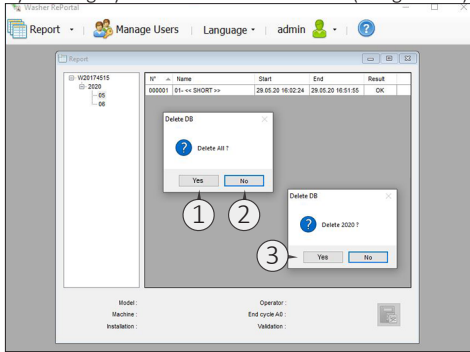

Fig. 23.6c
- Delete DB: delete the entire database or only the selected item (Fig. 23.6c);
The "Delete DB" function permit to delete the full database, by clicking "yes" at the first choice (1 Fig. 23.6c), or delete the single machine's serial number by clicking "yes" at the second choice (3 Fig. 23.6c).